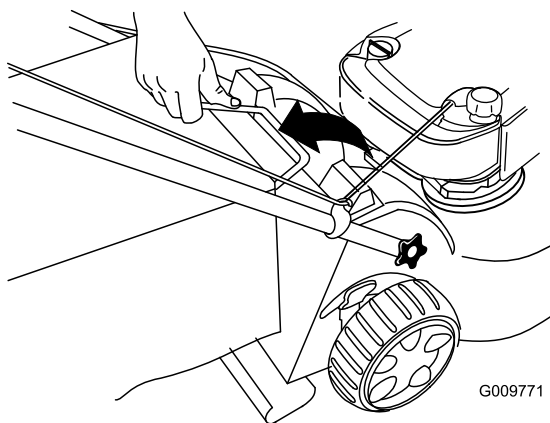

Figure 31
2. Lift the grass-bag handle out from the grooves at the top of the machine and remove the bag from the machine (Figure 31).